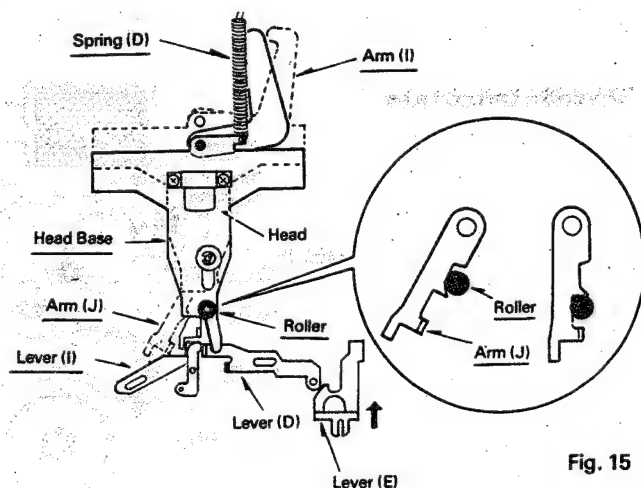

Fig. 15
2. The Head Base moves downward, as shown in Fig. 15, and is locked by Arm (J) and the Roller mounted on the Head Base. In F.F./REWIND and Ejection, Lever (I) moves left to disengage Arm (J) so that the Head Base is unlocked for return to its normal position by Spring (D).